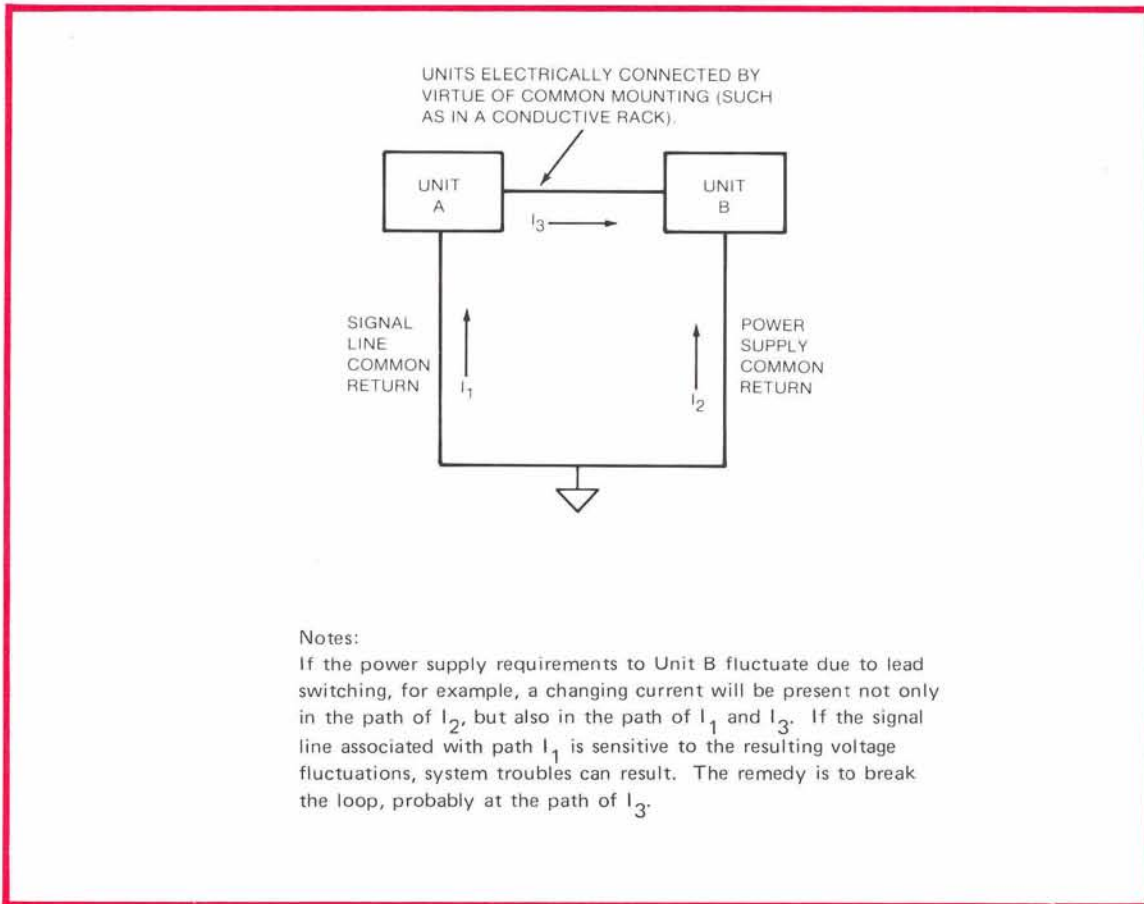

Figure 5-2. Grounding to Avoid Ground Loops
- b. The system electronics can become very sensitive to external noise (such as power line switching transients) due to undesirable currents flowing through ground wiring. These currents cause a voltage potential other than zero volts to exist at points in the grounding system. (See *Figure 5-2*).